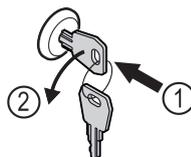

Fig. 185
- ▶ Insert the key. Fig. 185 (1)
- ▶ Turn the key anticlockwise by 90°. Fig. 185 (2)